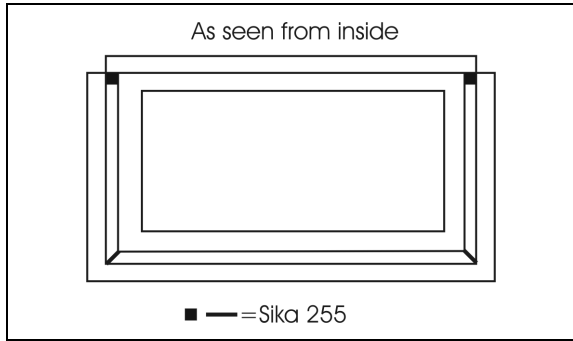

FIGURE 67: SIKI 255 APPLICATION
3. Apply Sika 255 (or 252) at the upper and lower frame corner as per FIGURE 67.